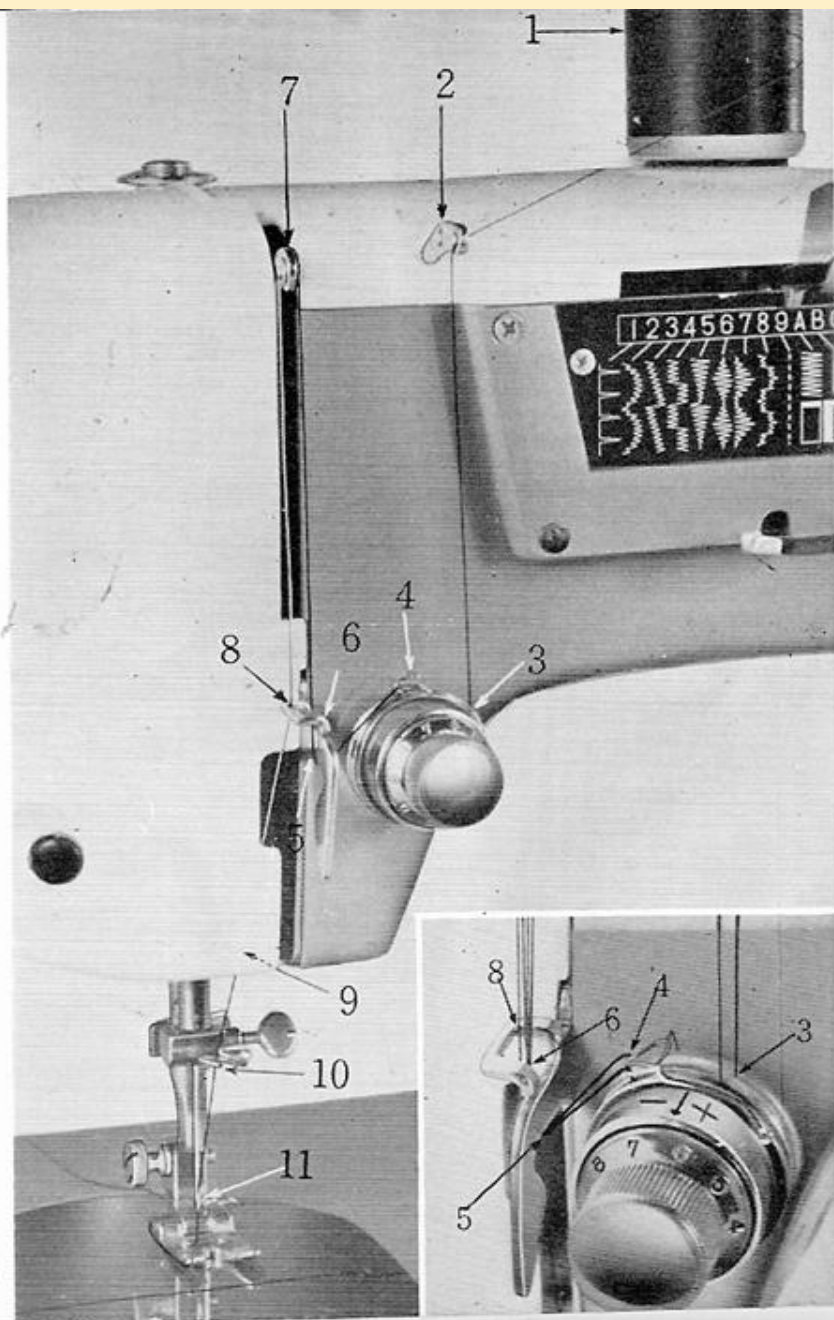

Fig. 3
- 1). After placing spool of thread on top spool pin (#1. Fig. 3)- and raising the take-up lever to its highest point, pull thread through the following steps from right to left: